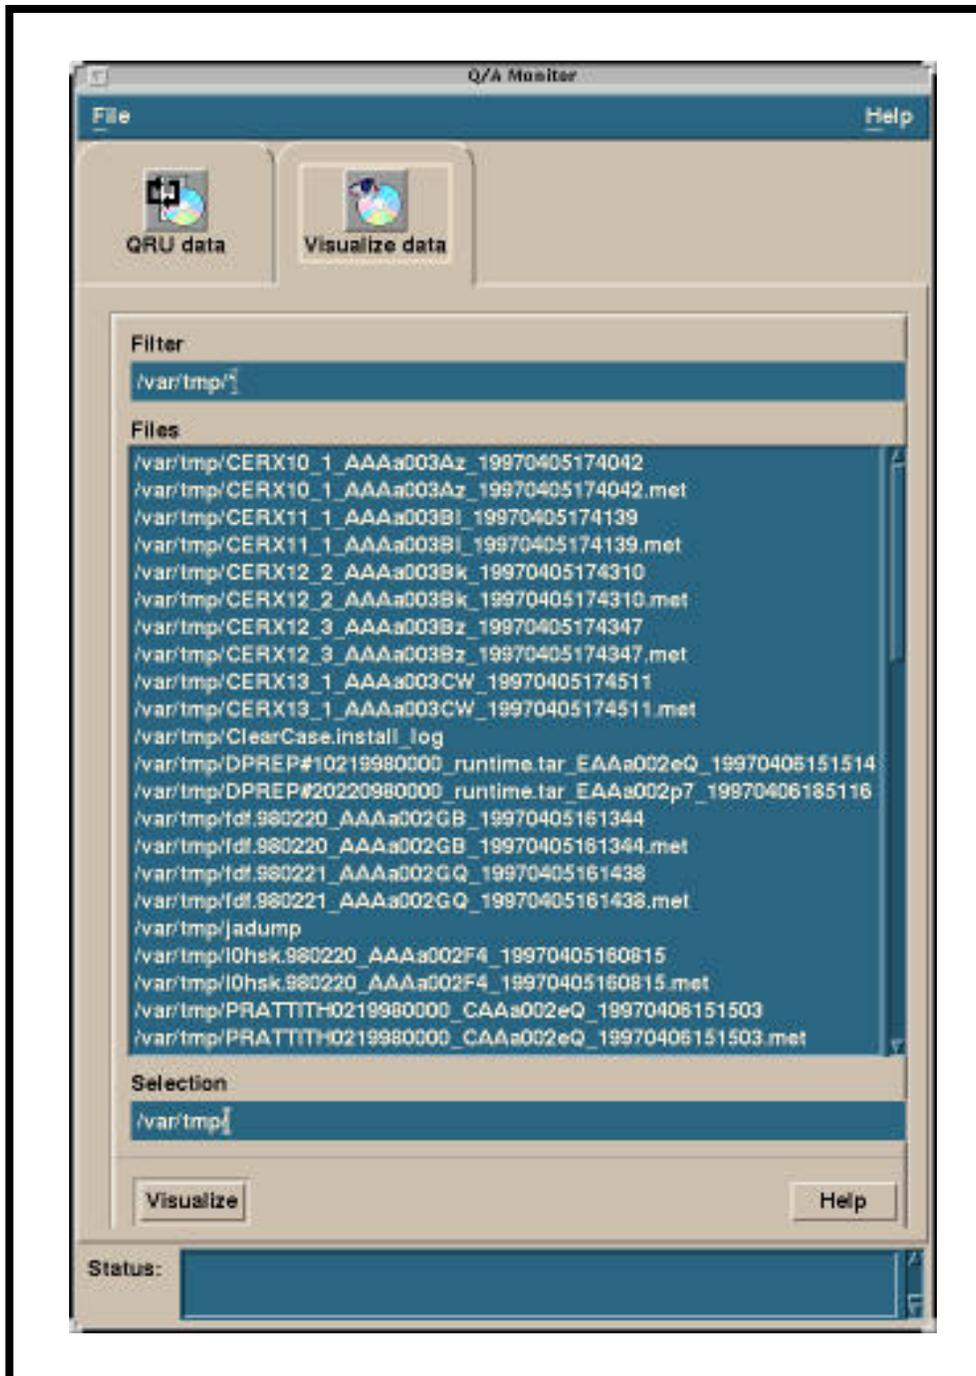

Figure 34. Q/A Monitor GUI - Visualize Data Tab
- The **Q/A Monitor** GUI **Visualize data** tab (Figure 34) is displayed.